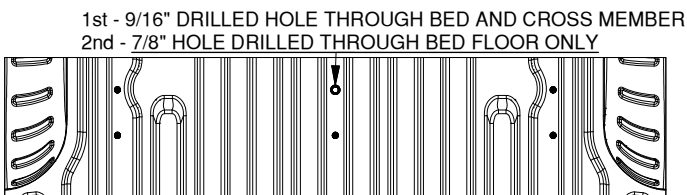

Figure B3: View looking down at top of bed.
4. **Enlarge the holes.** Using the 1/8" holes as pilots, drill out each hole with a 9/16" bit. The center forward drill location on the rear rail is directly above a bed crossmember. This hole location will receive a 1/2" X 4-1/2" carriage bolt, see Figure B3. The drill must pass through both the bed and the crossmember, at this location, and should be as straight as possible when drilled. Enlarge this hole to 7/8" in the bed only.